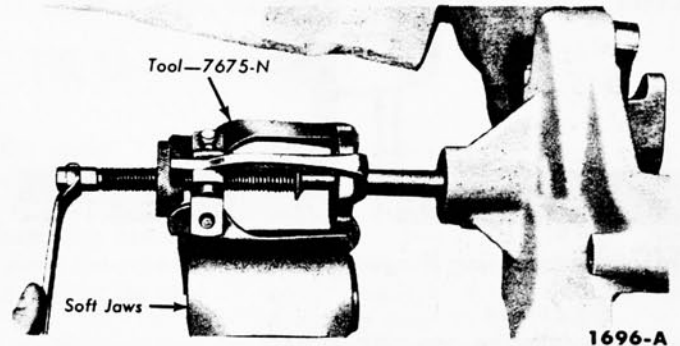

FIG. 5—Hub Removal
1. Remove the back plate and gasket from the water pump, then remove the hub from the impeller shaft (Fig. 5).